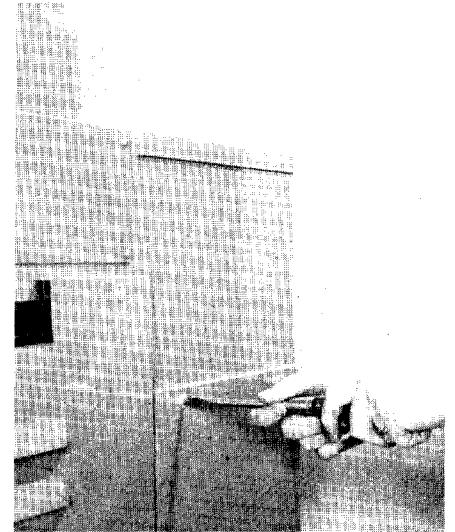
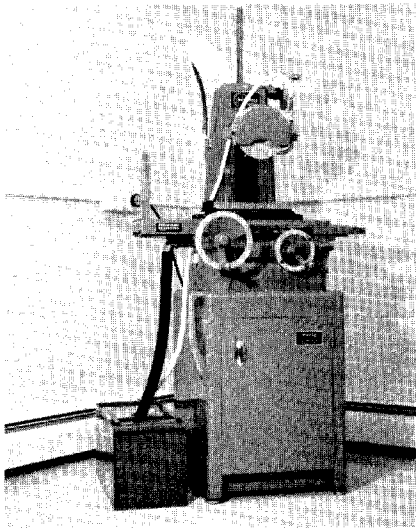

Figure 3
Figure 4
**STEP 8. If WET COOLANT ATTACHMENT** has been purchased with a 618, loosen the three 1/4 turn coolant compartment screws (*Fig. 3*) and assemble as per instructions packed with the system. A wet coolant system purchased with a 612 is placed along side the machine. (*Fig. 4*)